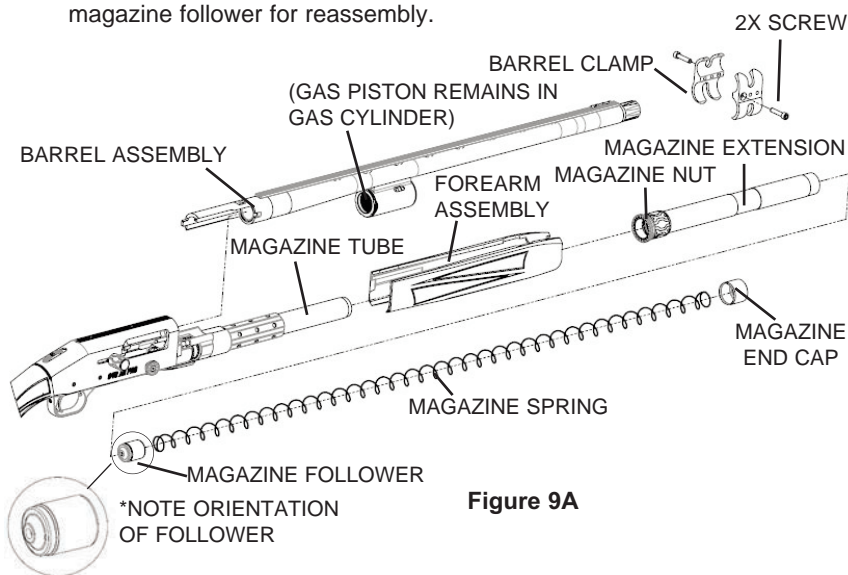

Figure 9A
Unscrew and remove the magazine cap (Figure 9A or 9B), insert either end of the wooden dowel at the end of the magazine tube, inside the coils of the magazine spring. Replace the magazine cap finger tight only. Do not use pliers or a wrench to tighten the magazine cap.
The action assembly of your model 940™ may be fitted with a magazine extension and a magazine nut. If this resembles your model as shown in Figure 9A, follow the procedure below for barrel removal.
1. Applying light pressure and keeping your palm over the cap (Figure 9A), unscrew the magazine end cap. **CAUTION: The magazine spring is under considerable pressure and is retained by the magazine end cap. The magazine spring will extend to its full length when the magazine end cap is removed.**
7. Pull the barrel forward, free of the receiver and magazine tube. Ensure the gas piston remains in the gas cylinder or the barrel will bind (Figure 9A).